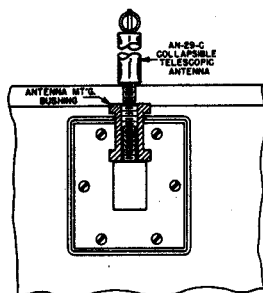

Fig. 1.—Rear view, showing Antenna AN-29-C in position.
1. Prepare cordage as shown in figure 1.
4. Finish transmitter end as in figure 1 but leave free end of No. 18 or No. 20 wire long enough for connection to ground wire.
1. When operating the radio receiver and transmitter as a portable unit, collapsible Antenna AN-29-C may be quickly screwed to the antenna terminal located on the rear of receiver transmitter case. See fig. 1.
- Prepare cordage as shown in figure 1.
- Finish transmitter end as in figure 1 but leave free end of No. 18 or No. 20 wire long enough for connection to ground wire.